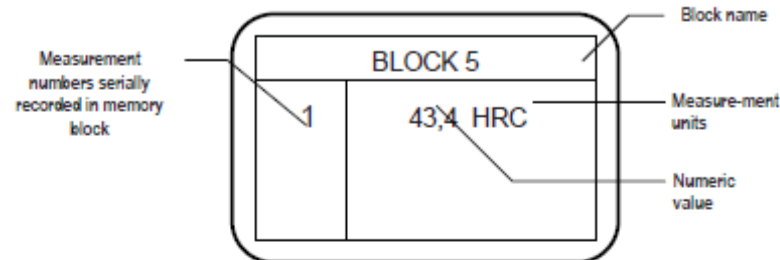

Figure 12
2.8.4 Select the required memory block by placing the cursor on it using the «▲», «▼» buttons. Press the «↵» button. The graphic display will look like the one depicted in Fig. 12.